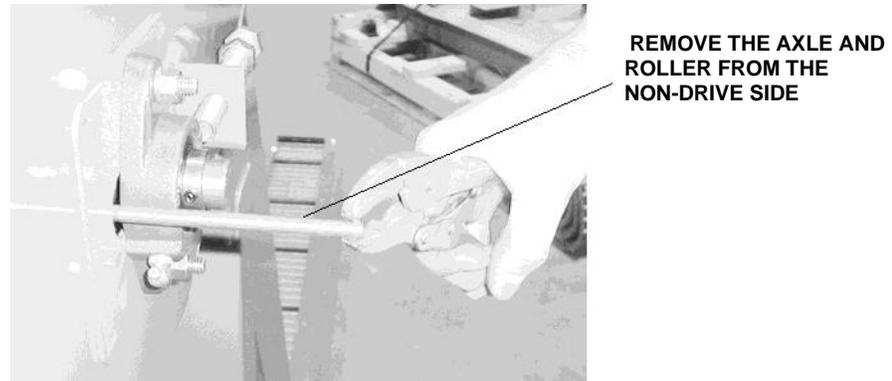

Figure 15: Removing the axle on a metal belt conveyor
9. Remove the axle from the non-drive side as shown in Figure 15. Install the axle and roller back into the top half of the metal belt to avoid losing the axle, pin, side wings and roller.
10. Remove the axle from the non-drive side as shown in Figure 15. Install the axle and pins, and rollers back into the top half of the metal belt to avoid losing the parts.